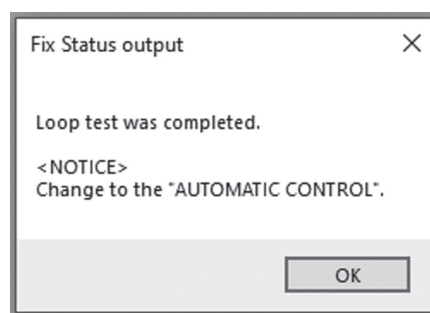

Fig.135
- ⑤ After the "Stop" button is clicked, a message box (Fig. 135) will be displayed. Click the "OK" button.